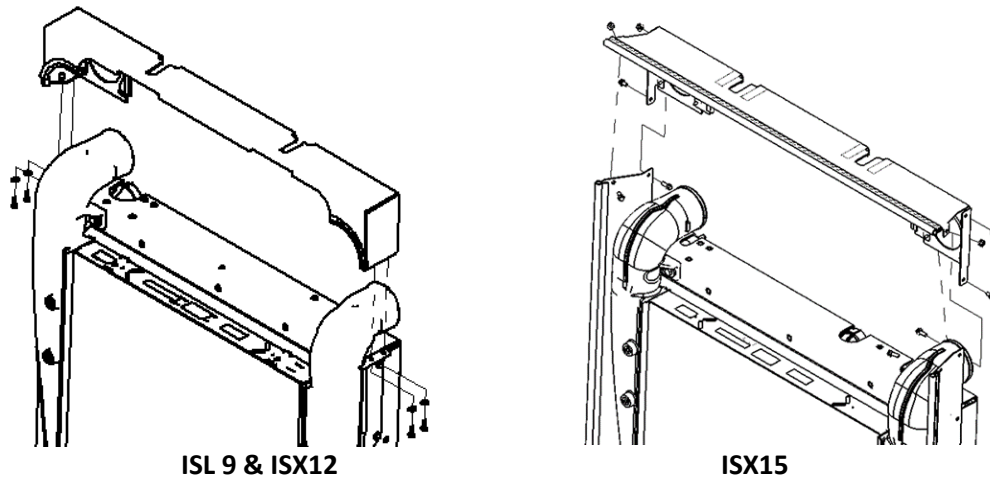

FIG 4-1
3. Remove top recirculation shields. (See FIG 4-1)